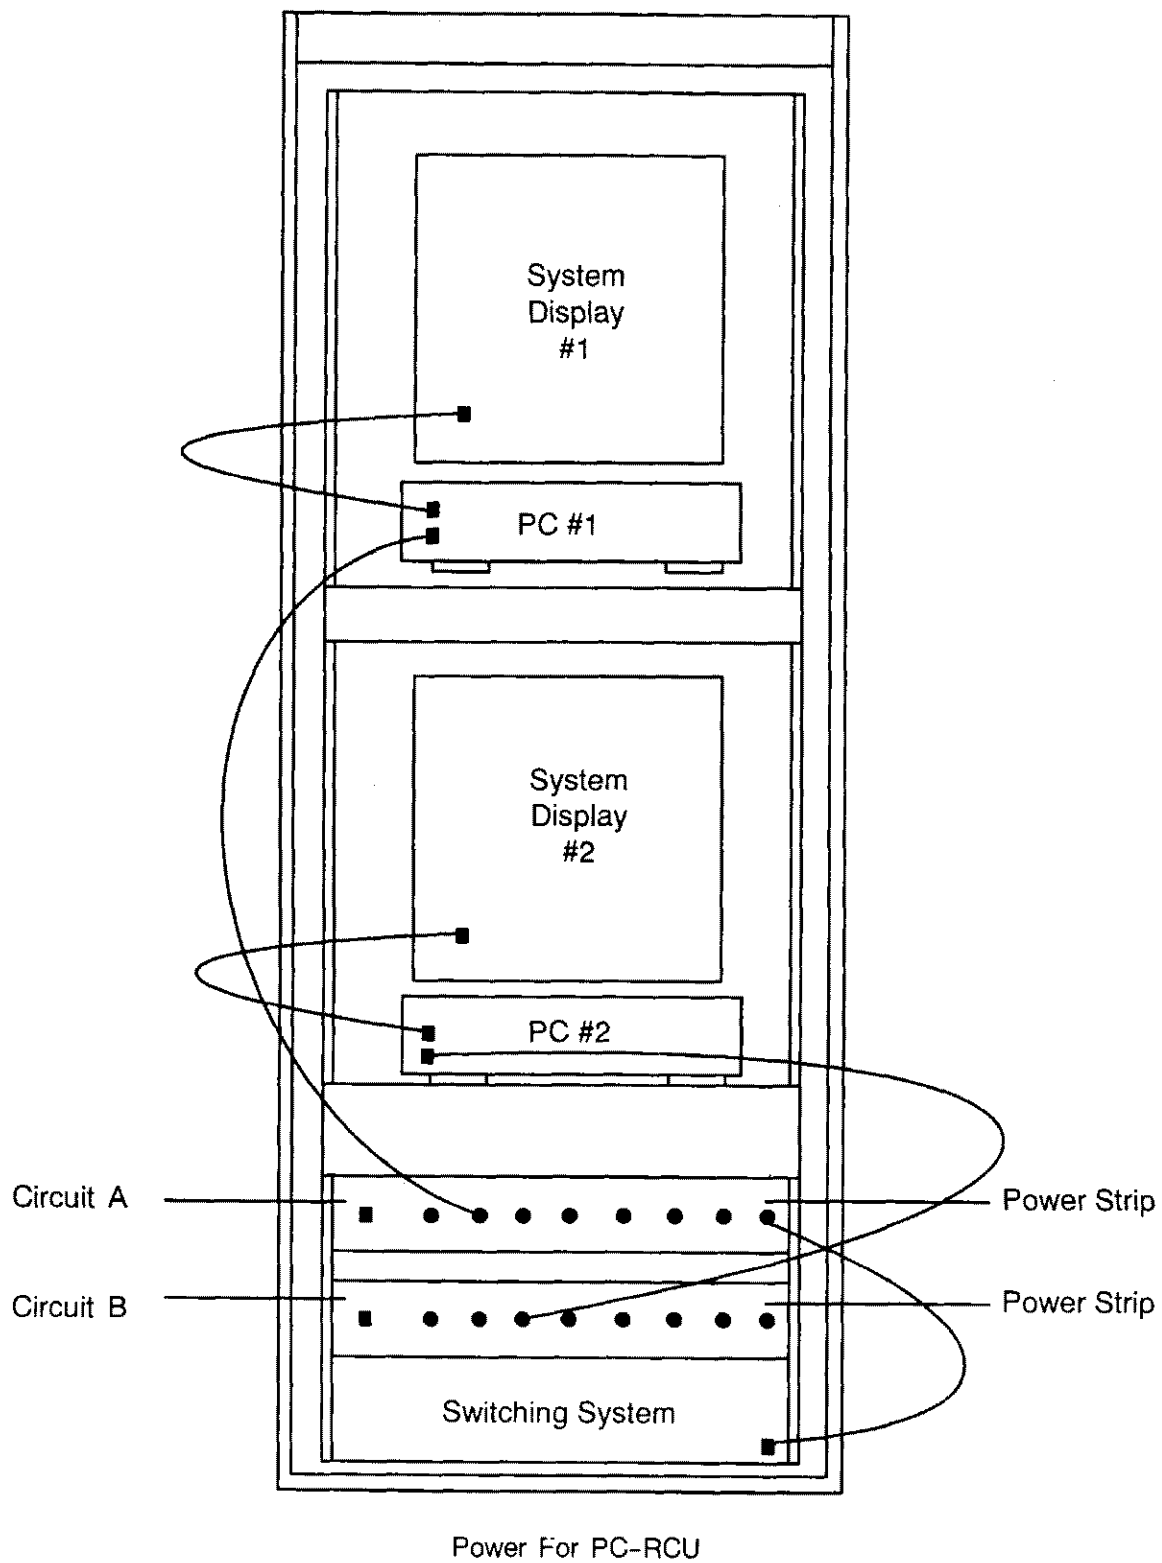

FIGURE 12-12. PC-RCU POWER CONFIGURATION
APC SurgeArrest Rackmout (Figure 12-12)	5920-01-469-3058
- g. Ensure two separate 115 V ac (± 10 percent) circuits are installed for each PC RCU System (one for each PC). Refer to figure 12-12 for proper power configuration.
- 7 Connect to power source. Refer to figure 12-12 for power configuration. Power ON PC to ensure it powers on without error. Also, if using Digi International ClassicBoard 8 peripheral interface board, run board configuration software that is supplied with the board to verify proper settings. Refer to section 12.9.3.3.2 for proper Interrupt Request (IRQ) and address settings.